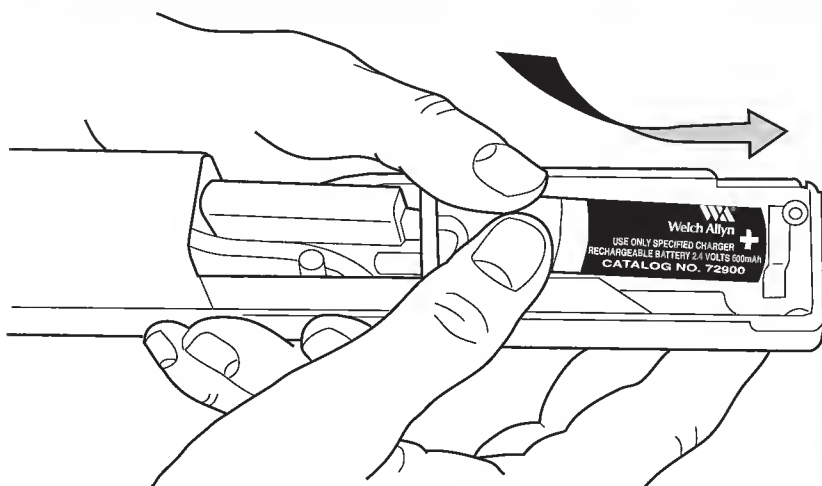

Figure 38
5. Insert the replacement battery by placing the positive (+) end of the battery against the spring in the holder. Push the battery lightly to compress the spring, and lower the battery into the compartment. See **Figure 38**.